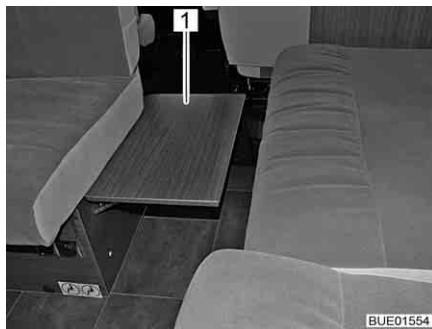

Fig. 108 Folding bench seat enlargement
- Fold up the bench seat enlargement (Fig. 108,1) on the front bench and lock into place.